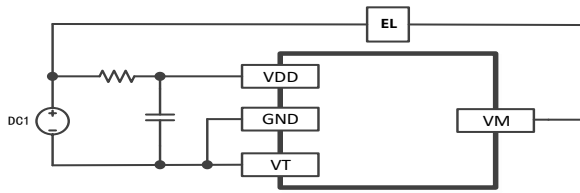

Figure7-3
a. According to the figure7-3, connect the DC1 power supply to the B + and GND pins of the system board and set the voltage to about 3.0V/3.6V/4.2V. Connect the electronic load from B + to VM and observe the waveform.